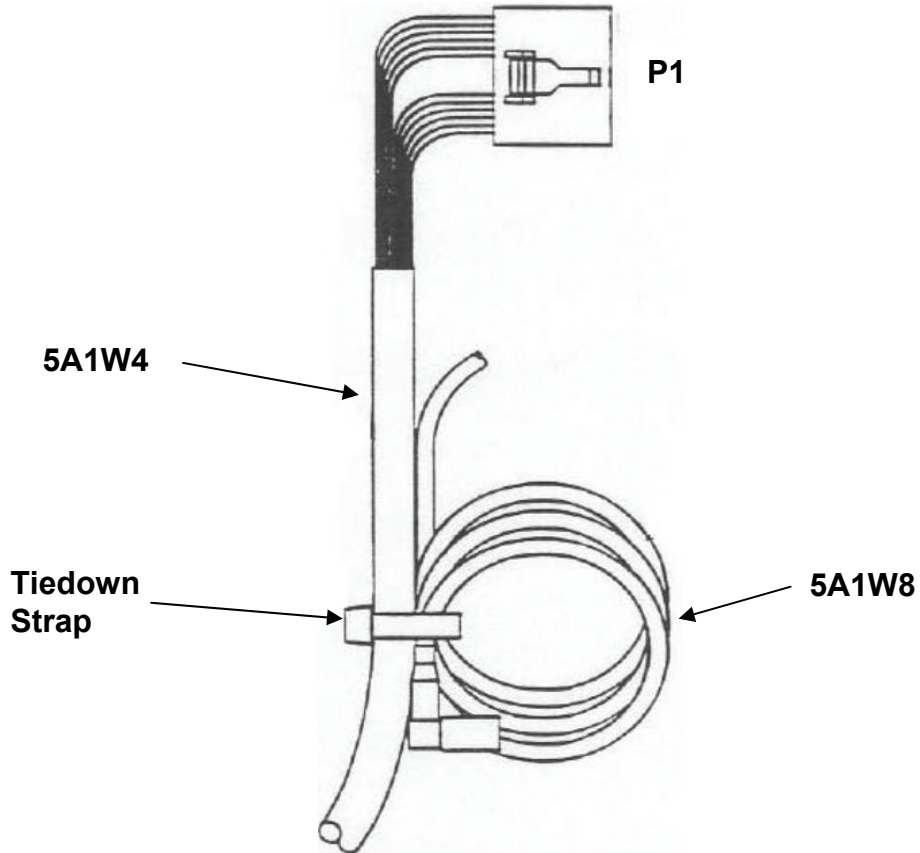

Figure 1. RF Cable Assembly (5A1W8)
b. GPS Connector Plug	Position GPS Connector Plug into GPS-A Connector (5A1J14) mounting hole and using torque screwdriver, secure GPS Plug using two (2) screws in kit. Torque screws to 8 to 10 in/lbs.
d. RF Cable (5A1W8)	Obtain tie-strap from kit. Coil RF Cable Assembly (5A1W8) and fasten using tie-strap to Cable Assembly (5A1W4) (See Figure 1).
e. CCA-Interface (5A1A2)	Install CCA-Interface (5A1A2) to Power Supply Cover using crosstip screwdriver to install four (4) retained screws.
f. Retaining Screws	Using crosstip screwdriver, install two (2) screws and flat washers securing CCA-Interface Reactors (5A1A2L1 and 5A1A2L2) to Power Supply Cover.